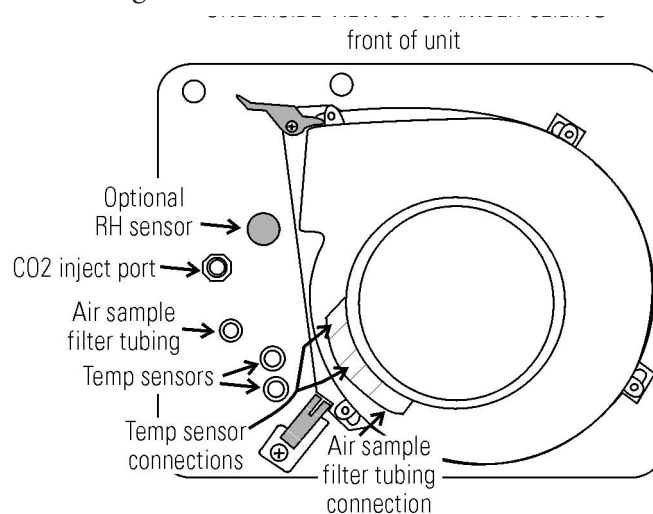

Figure 6-4. Underside View of Chamber Ceiling
16. Carefully pull the temperature sensors and air sample filter tubing down until they can be inserted approximately 1 inch into the appropriate holes in the back of the blower scroll. If applicable, place the optional RH sensor into the corresponding clip on the top duct. See Figure 6-4.